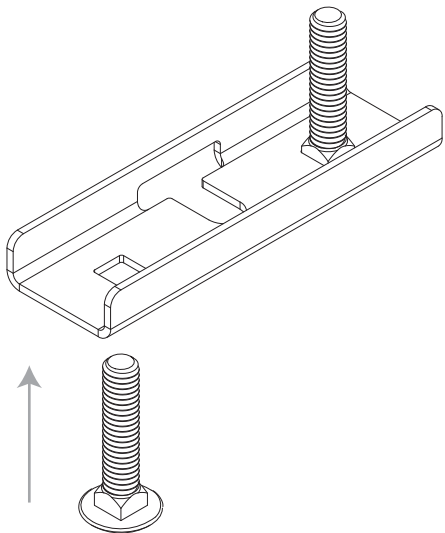

FIGURE 1
1. FIRST STEP IS TO PLACE THE ANCHOR STUD BRACKETS IN PLACE WITH THE 5/16-18 CARRIAGE BOLTS INSTALLED. SEE THE DIAGRAM BELOW AS WELL AS FIGURE 1 TO LEFT FOR REFERENCE